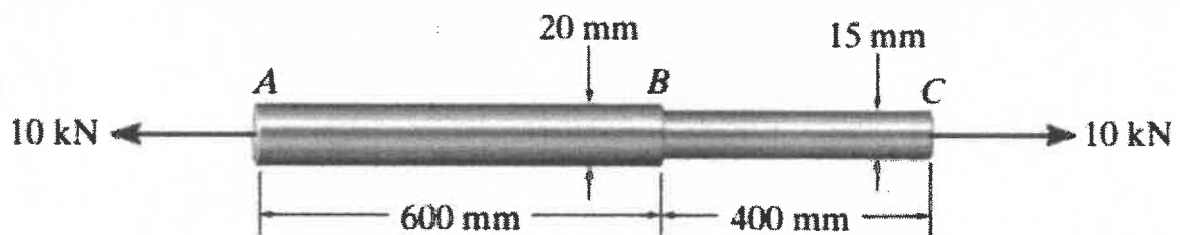

Figure 14: Aluminum Rod
*Refer Below - Figure14 : Aluminum Rod .*